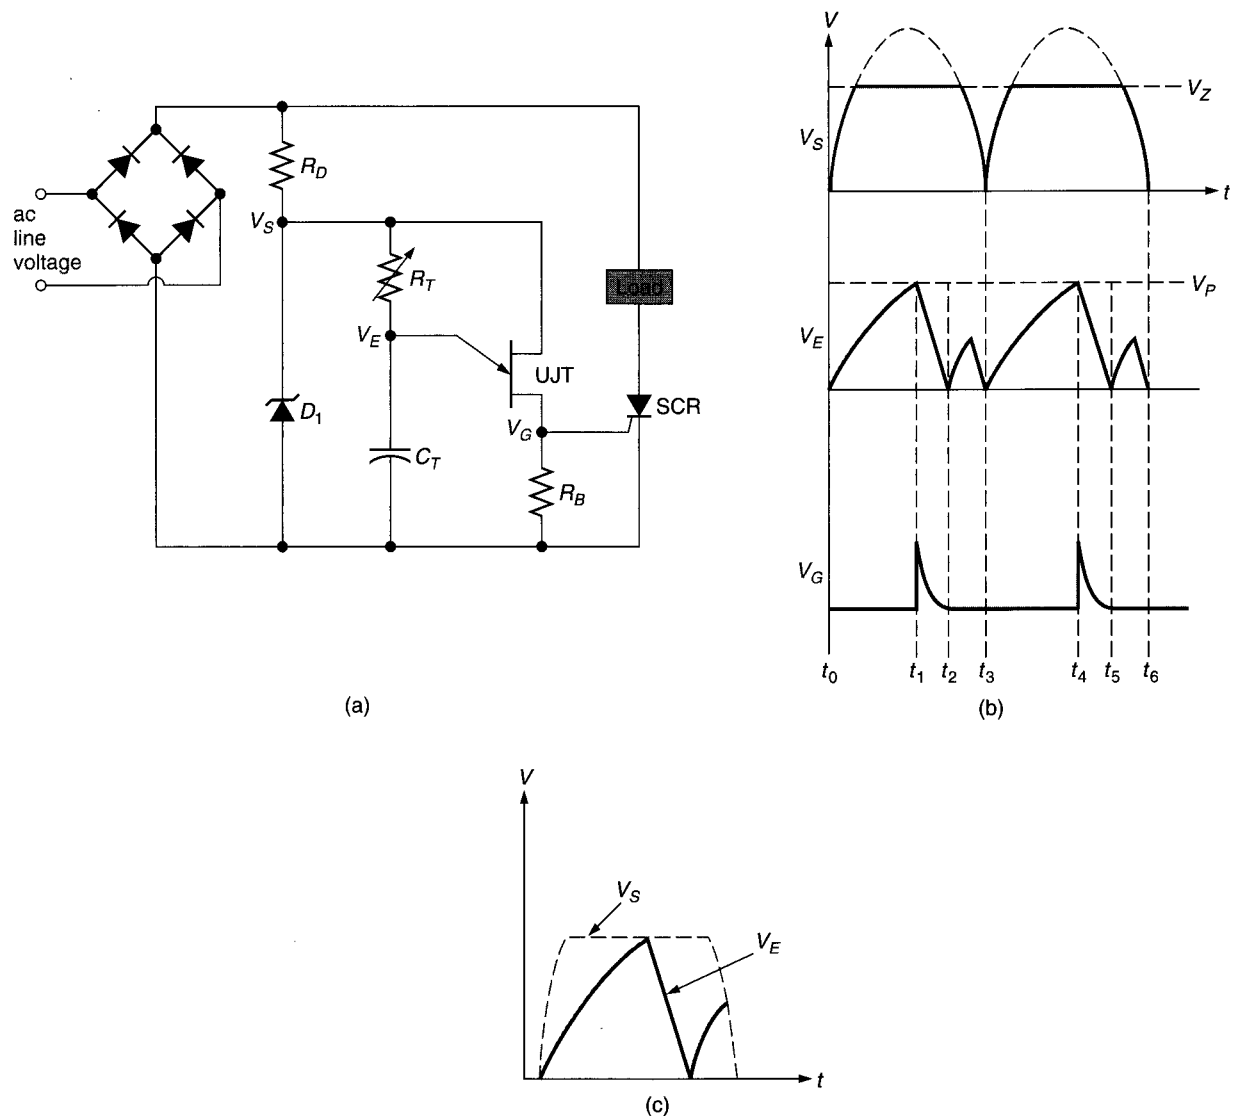

FIGURE 20.35 A UJT relaxation oscillator.
UJTs are used almost exclusively as *thyristor-triggering devices*. An example of this application can be seen in Figure 20.35. The circuit shown in Figure 20.35a is called a *relaxation oscillator*. A **relaxation oscillator** is a circuit that uses the charge/discharge characteristics of a capacitor or inductor to produce a pulse output. This pulse output is normally used as the triggering signal for a thyristor, such as an SCR or a triac. In a practical relaxation oscillator, the dc supply voltage ( $V_S$ ) is derived from the ac line voltage to control the timing of the oscillator.
The circuit shown in Figure 20.36b demonstrates the use of the PUT in a relaxation oscillator.  $R_1$  and  $R_2$  are used to establish the value of  $V_{GK}$  for the device.  $C_T$  is charged through  $R_T$  until  $V_{AK}$  reaches the value of  $V_{GK}$ . At that point, the PUT is triggered, allowing conduction through  $R_3$ . The conduction through  $R_3$  produces a voltage pulse at the gate of the SCR that is similar to the  $V_G$  waveform in Figure 20.35.
9. Describe the operation of the *UJT relaxation oscillator* in Figure 20.35.